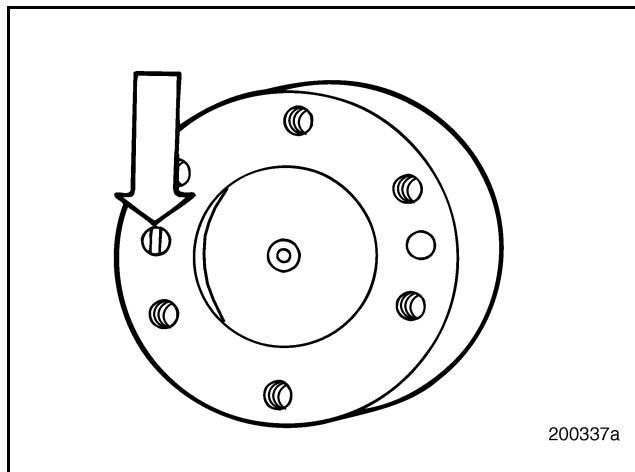

Figure 220 — Dowel Pin Alignment
1. Position the dowel pin in a 0.5562-inch (14.1275 mm) diameter unthreaded hole in the rear flange of the crankshaft. The pin must be installed with the flat surface aligned parallel to the center of the crankshaft as shown in Figure 220.